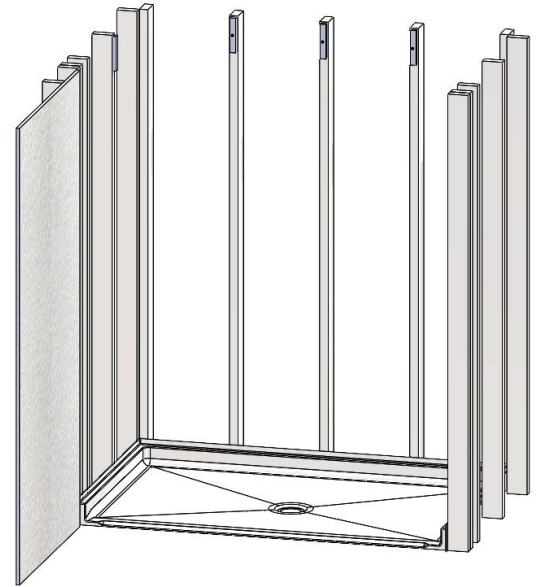

Figure 7
- 6b** If the wall height was altered, screw shims (provided) to the top of the studs as shown in Figure 7.